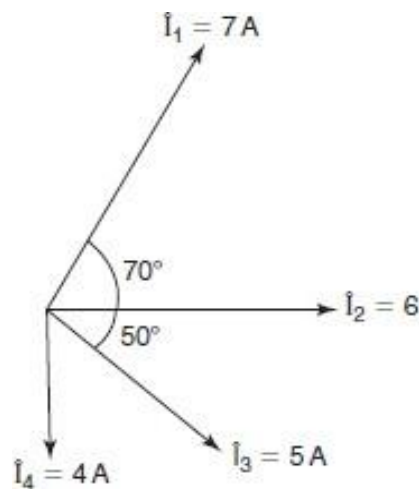

Fig. 6.22
- Q** The phasor diagram representing four alternating currents is shown in Fig. 6.22, where the length of each phasor represents the amplitude of that waveform. Write down the standard expression for each waveform.